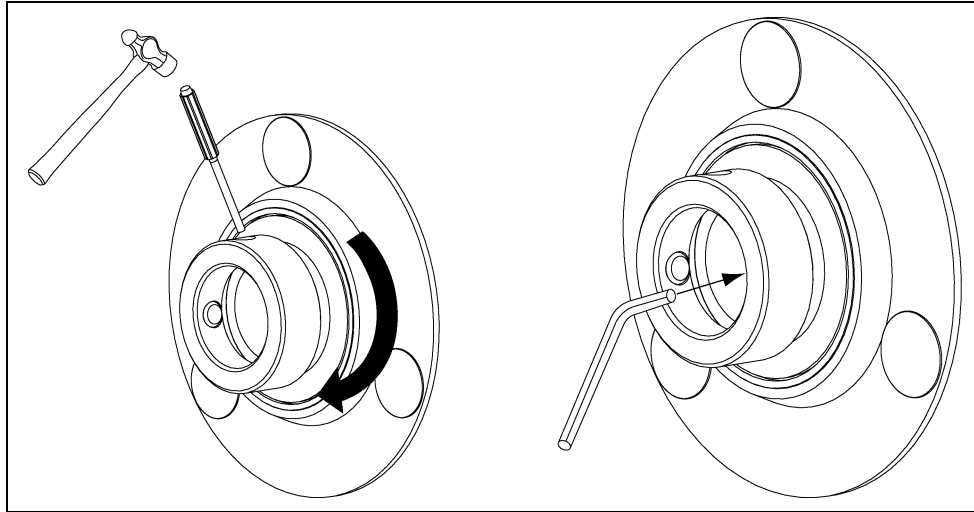

Figure 4G
Step 7: Tighten lock collars. (See Figure 4G.)